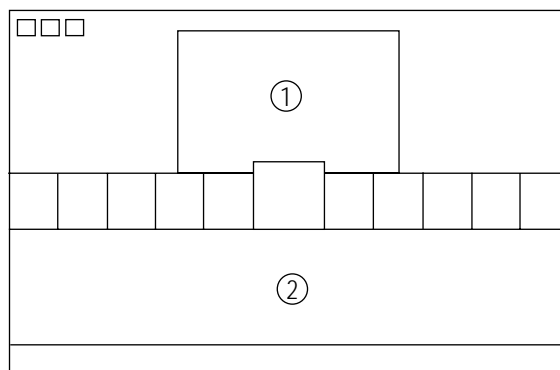

Fig. 4-4
1. Set SBT to  $2.5 \pm 0.5$  fL in the Factory Service Mode with using CA100. See Fig. 4-4 ②.
1. Set SCT to 50 FL (21" Flat) in the Factory Service Mode with using CA100. See Fig. 4-4 ①.